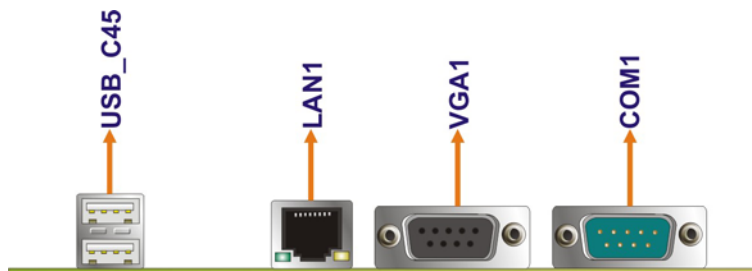

Figure 4-23: WAFER-9102 External Peripheral Interface Connector
Figure 4-23 shows the WAFER-9102 external peripheral interface connector (EPIC) panel. The WAFER-9102 EPIC panel consists of the following:
- CN Location:** See **Figure 4-23**